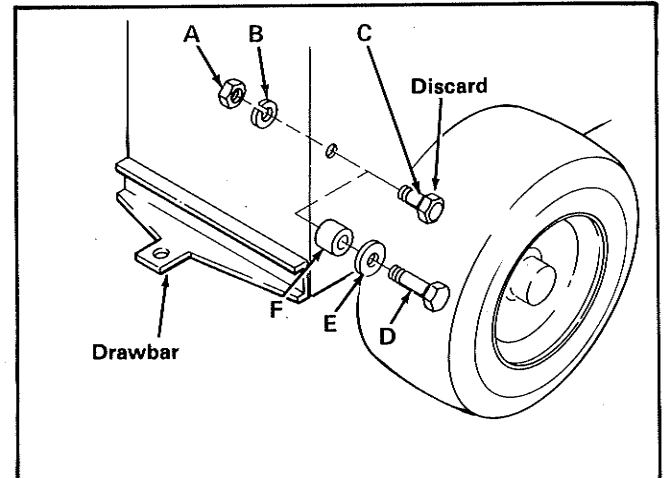

Figure 2. Installing Spacers
2. To install the spacers, first remove existing nuts, lockwashers and nuts (A, B and C, figure 2) from each side of tractor. Install the spacers, washers, and capscrews from kit as shown in figure 2 with existing lockwashers and nuts.